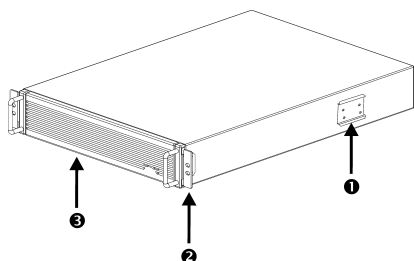

Figure 2: AP9621 / Front View and Side View
**Rail Cleats 1:** Two cleats (one on each side) of the Step-Down Transformer engage with the rack mounting rails to secure in the equipment rack (see Figures 2 and 3).
**Mounting Flanges 2:** Two mounting flanges (Figure 2) secure the Step-Down Transformer in the rack.
**Front Bezel 3:** A bezel (see Figures 2 and 3) covers the front of this Step-Down Transformer. The bezel is removed during the installation for the SYTF2, SYTF2J, SYTF3 and SYTF3J models.